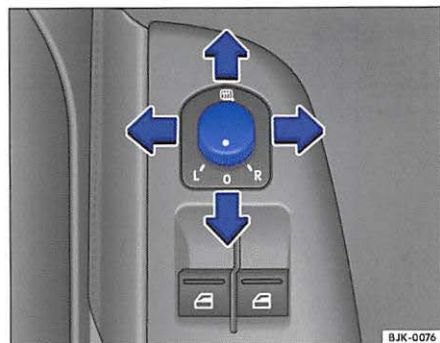

Fig. 36 Section of driver's door: joystick for the outside mirrors
1. Turn the joystick  Fig. 36 to L (left outside mirror).